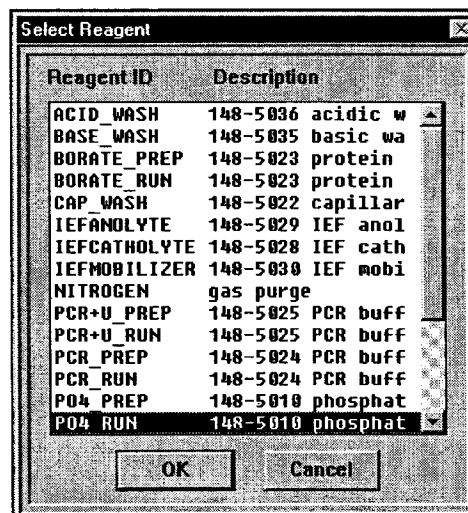

Figure 5-34 Select Reagent Screen
3. Double-click the box under Outlet. This brings up a reagent list screen. See Figure 5-34.
back to Waste, you can do so by double-clicking this cell. This will produce a message asking if you wish to designate a Waste as the outlet prep reagent for this cycle. Click **Yes** to enter Waste as the outlet reagent. If you click **No**, the Select Reagent list box will reappear for you to make your selection. See Figure 5-34. Either select a new reagent or click **Cancel** to return to the Define Method screen.